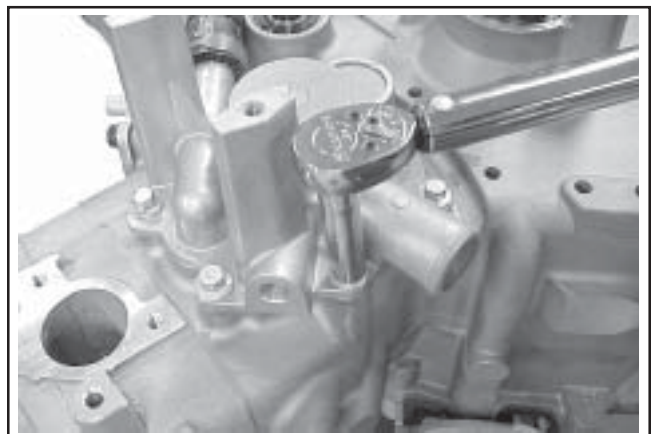

**Figure 11-48. Transfer Tube, Hose and Water Pump as Assembly.**
6. Slide the smaller diameter clamp onto the extruded end of the formed metal tube and insert this end of the tube into the hose section. Position the tube so its formed offset leads down and away from outlet, perpendicular to the pump. Install the clamp onto the hose and position the tangs of the clamp parallel to those of the first clamp. See Figure 11-48.